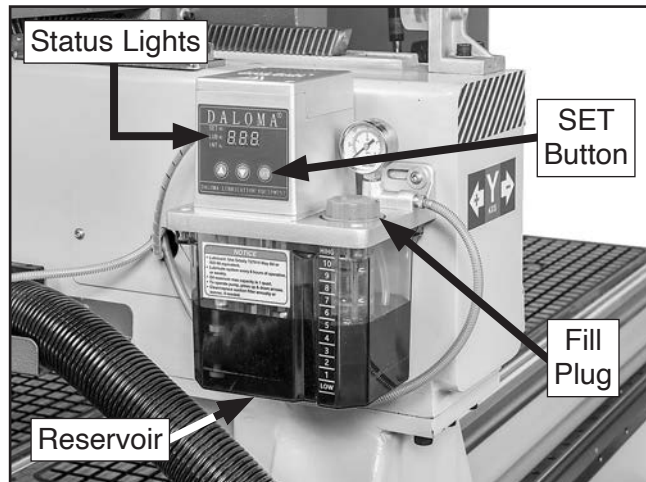

Figure 135. Oiler system control components.
The Model G0933 linear guide rails and ball screw require regular lubrication to perform properly. The oiler system (see **Figure 135**) on the rear of the gantry pumps oil to these components.
1. Verify reservoir is filled with *at least* (1) quart of Grizzly T27914 machine oil or ISO 68 equivalent, then turn router **ON**.
2. Press and hold SET button on oiler until an audible beep is heard (see **Figure 135**).